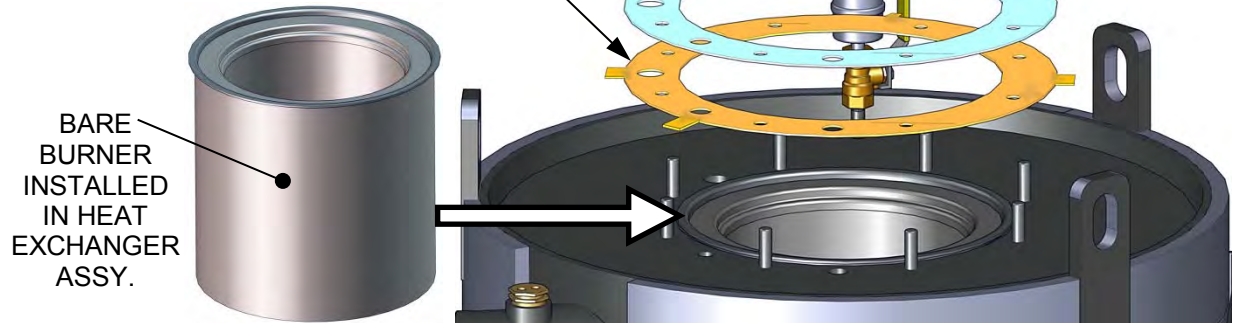

Figure 7-5: Bare Burner and Replacement Gaskets Location
14. Remove and replace the burner gasket (see Figure 7-5).
ALL THREE gaskets provided for maintenance MUST be installed during this procedure, as shown in Figure 7-5, even if there is only one existing gasket being replaced. Note that the LOWER RELEASE GASKET has tabs, which the others do not.